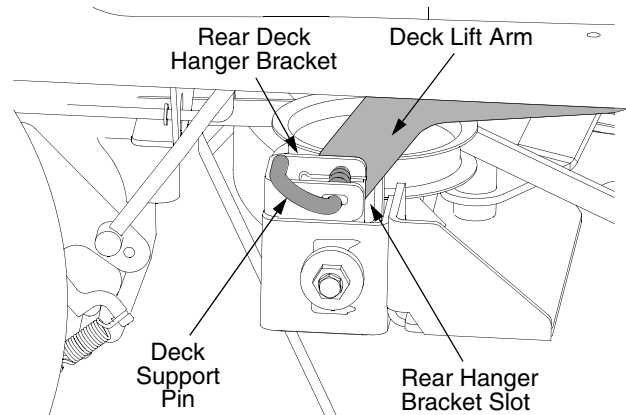

Figure 28
- Locate the LH and RH deck support pins on each side of the deck. Pull the deck support pins outward and lock in the disengaged position to release the deck from the tractor's LH and RH deck lift arms. See Figure 28.
- Maneuver the deck so that the slots in the two rear deck hanger brackets approximately align with the deck lift arms of the tractor. Refer to Figure 28.
- Pull the deck support pins outward and maneuver the deck as necessary to align the holes in the deck lift arm with the pins. Refer to Figure 28.